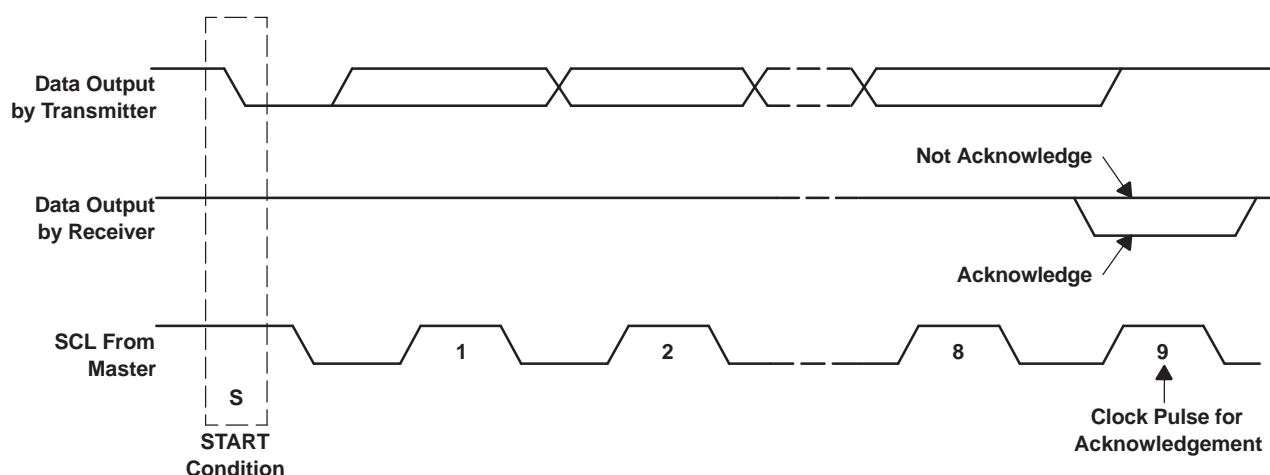

Figure 42. Acknowledge on the I²C Bus
- The addressed *Slave* responds by pulling the SDA pin low during the ninth clock pulse, termed the *Acknowledge* bit (see Figure 42). At this stage all other devices on the bus remain idle while the selected device waits for data to be written to its shift register.